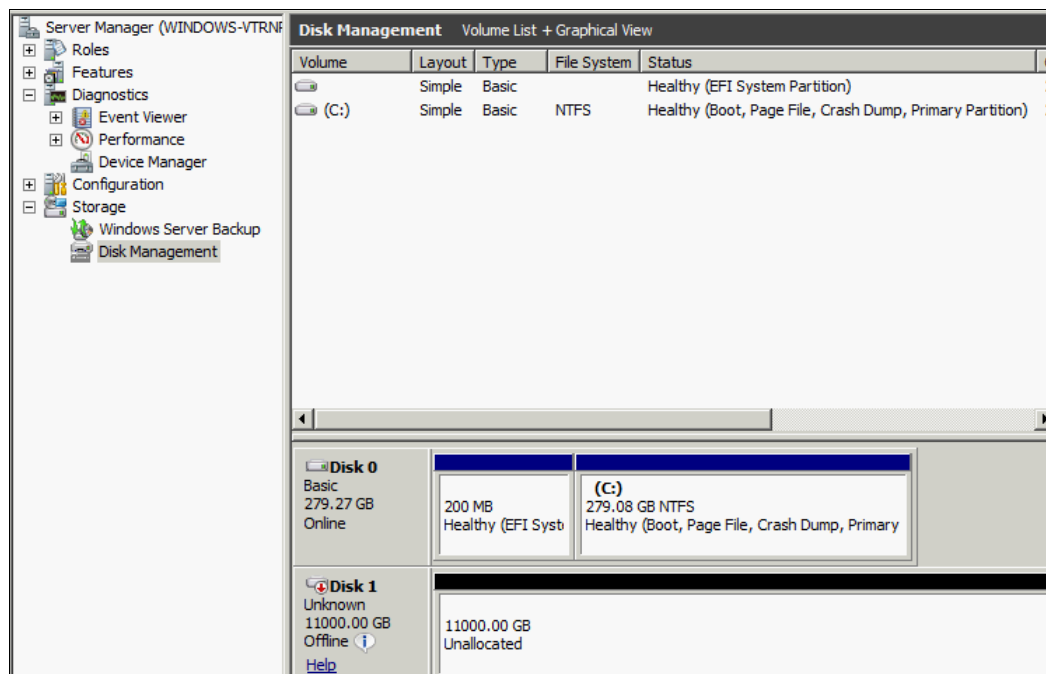

Figure 12-21 Windows Disk Management
9. Open the Windows Disk Management window (Figure 12-21 on page 488) by clicking **Start** → **Run**, typing diskmgmt.msc or simply open it from the Server Manager - click **OK**.